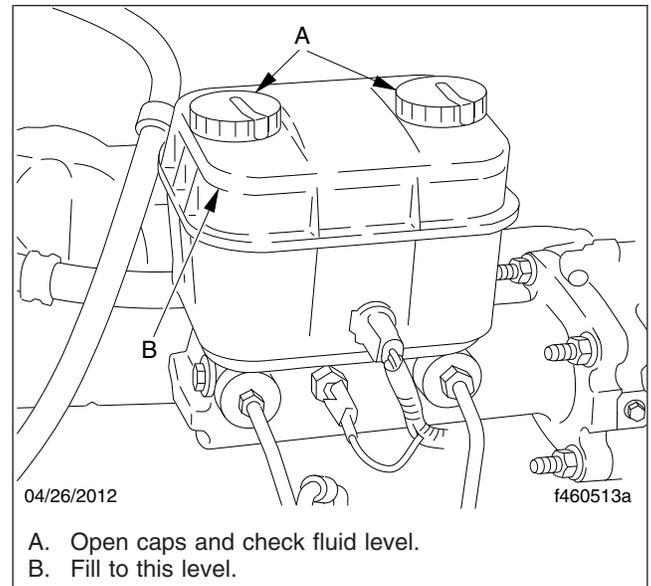

Fig. 8, Hydraulic Brake Fluid Reservoir
1. Check the fluid level in the hydraulic brake fluid reservoir. If needed, fill the reservoir up to the ridge that surrounds the reservoir. See **Fig. 8**. Use only heavy-duty brake fluid, DOT 3.